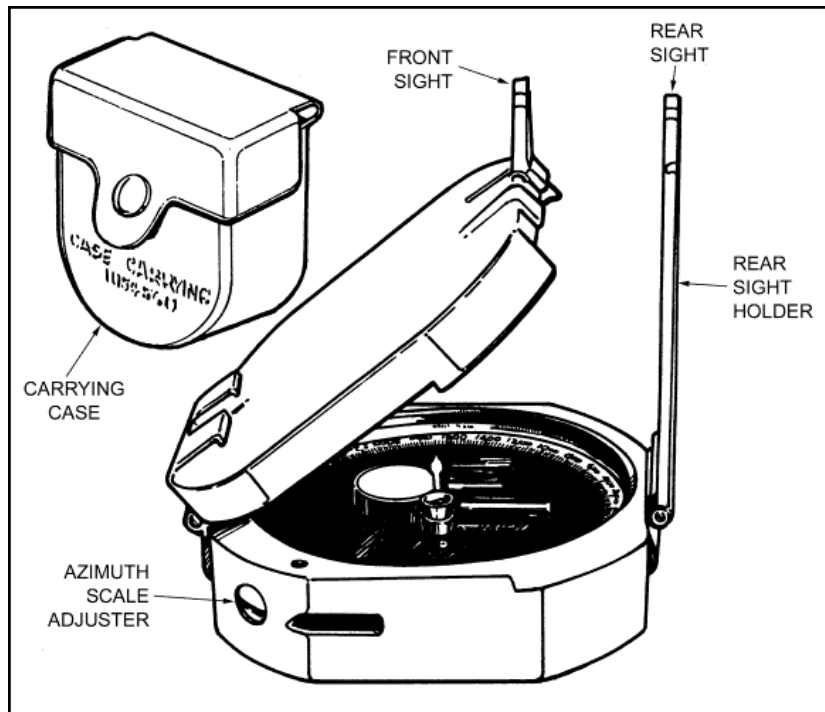
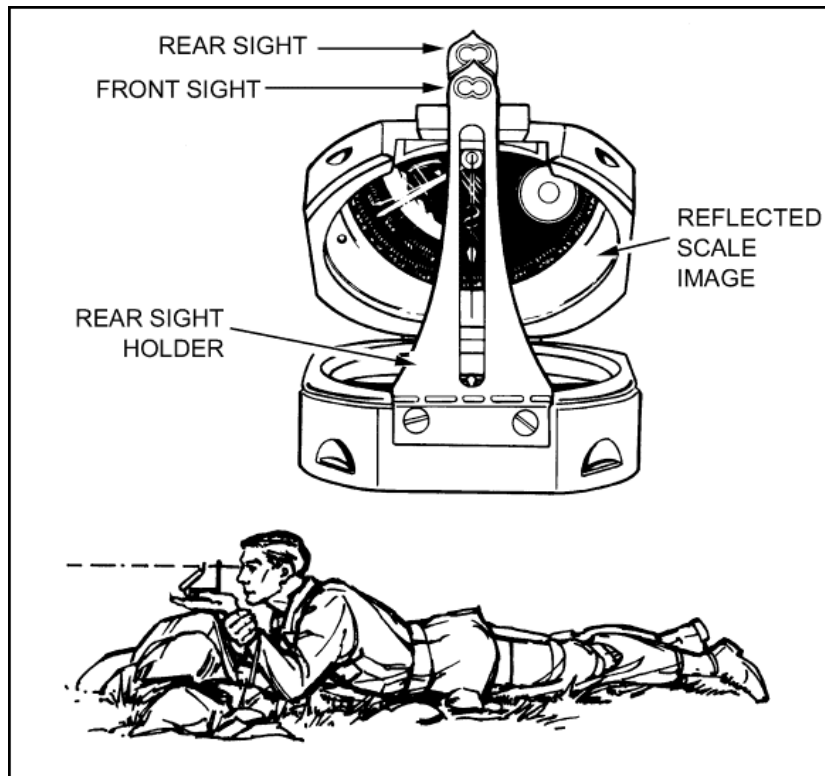

Figure 2-2. Compass, M2 (side view).
Figure 2-3. Compass, M2 (user's view).
- (1) Zero the azimuth scale by turning the scale adjuster.
- (2) Place the cover at an angle of about 45 degrees to the face of the compass so that the scale reflection is viewed in the mirror.
- (3) Adjust the front and rear sights to the desired position. Sight the compass by any of these methods:
- (b) Raise the front and rear sights perpendicular to the face of the compass (Figure 2-2 and Figure 2-3). Sight over the tips of the rear and front sights. The compass is correctly sighted when it is level and the tips of the sights and object are aligned.
- (4) Hold the compass in both hands, at eye level, with the arms braced against the body and the rear sight near the eyes. For precise measurements, rest the compass on a nonmetallic stake or object.
- (5) Level the instrument by viewing the circular level in the mirror and moving the compass until the bubble is centered. Sight on the object, look in the mirror, and read the azimuth indicated by the black (south) end of the magnetic needle.